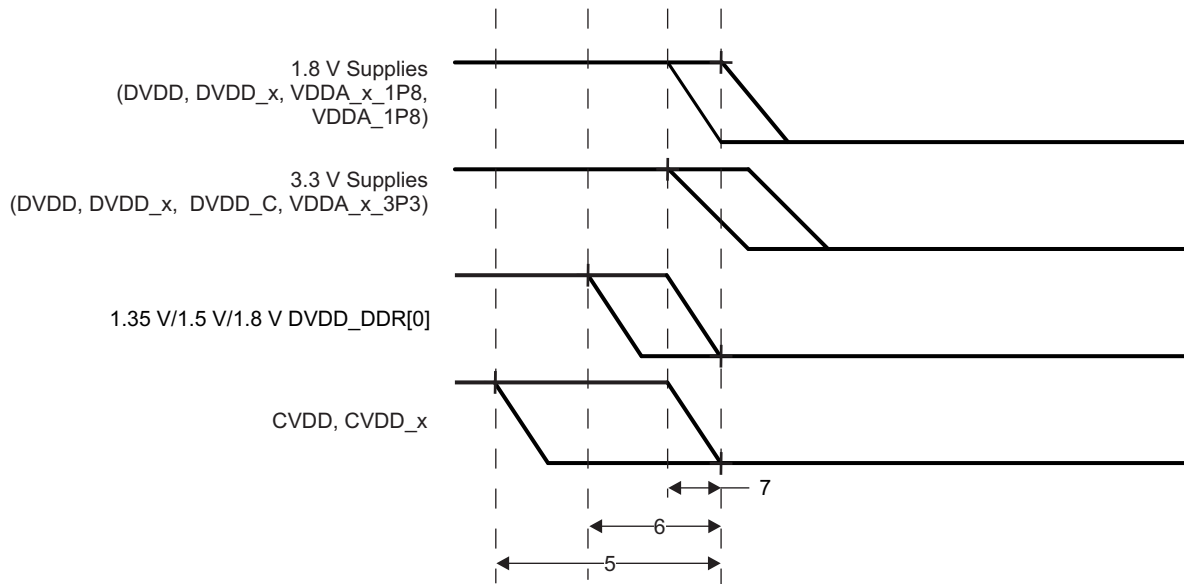
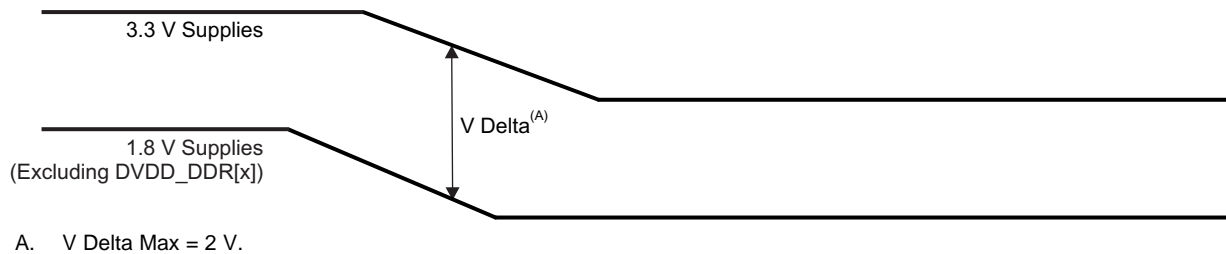
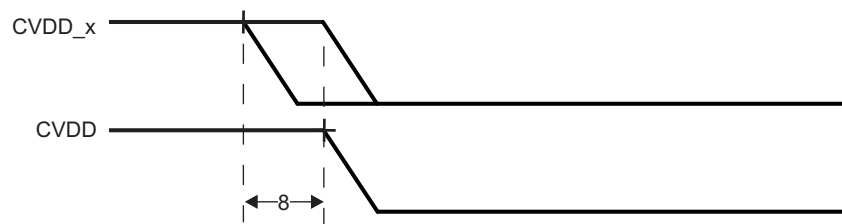

Figure 7-2. Power-Down Sequence
Figure 7-3. 3.3 V Supplies Falling After 1.8 V Supplies Delta
Figure 7-4. CVDD and CVDD\_x Power-Down Sequence
For proper device operation, the following power-down sequence in Table 7-6, Figure 7-2, Figure 7-3, and Figure 7-4 **must** be followed.
(1) The 3.3 V supplies **must** never be more than 2 V above the 1.8 V supplies (see Figure 7-3).
(2) The CVDD supply must be powered down coincidentally or after CVDD\_ARM and CVDD\_HDVICP supplies (see Figure 7-4).